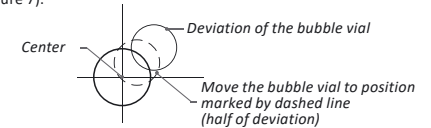

Figure 7
- c) Rotate the lifting screws to move the bubble vial halfway to the center (Figure 7).
- d) Turn 2 adjusting screws to adjust the position of the bubble vial (Figure 7).